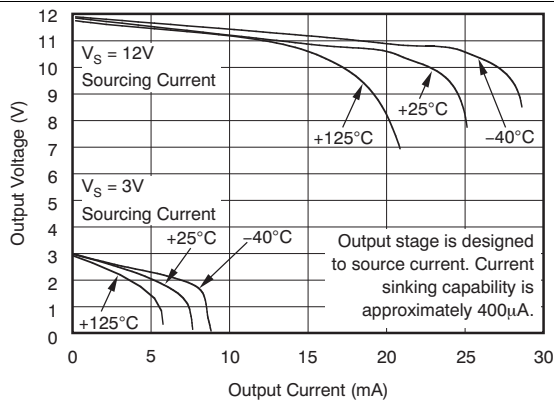

Figure 7. Positive Output Voltage Swing vs Output Current
(1) Total output error includes effects of gain error and  $V_{OS}$ .
(2) For details on this region of operation, see the *Accuracy Variations as a Result of  $V_{SENSE}$  and Common-Mode Voltage* section.
(3) See Typical Characteristic curve *Output Swing vs Output Current*, Figure 7.
(4) Specified by design.